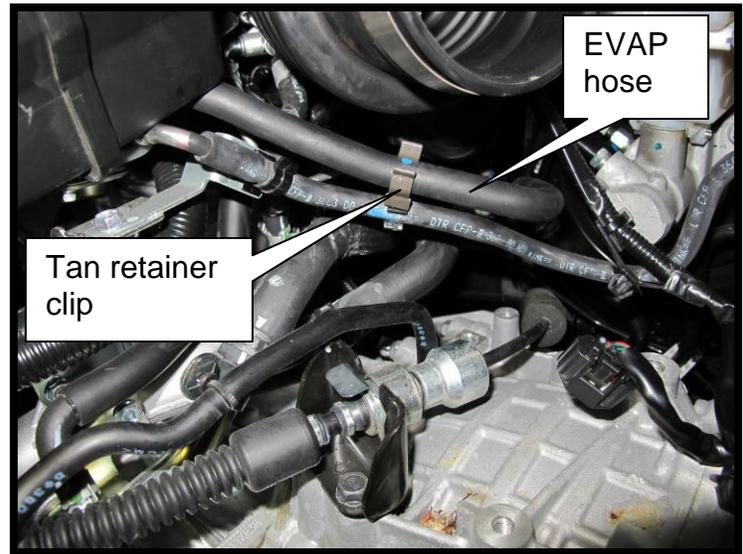

Figure 4
4. Locate EVAP hose below the intake duct as shown in Figure 4 and unlatch from tan plastic retainer.